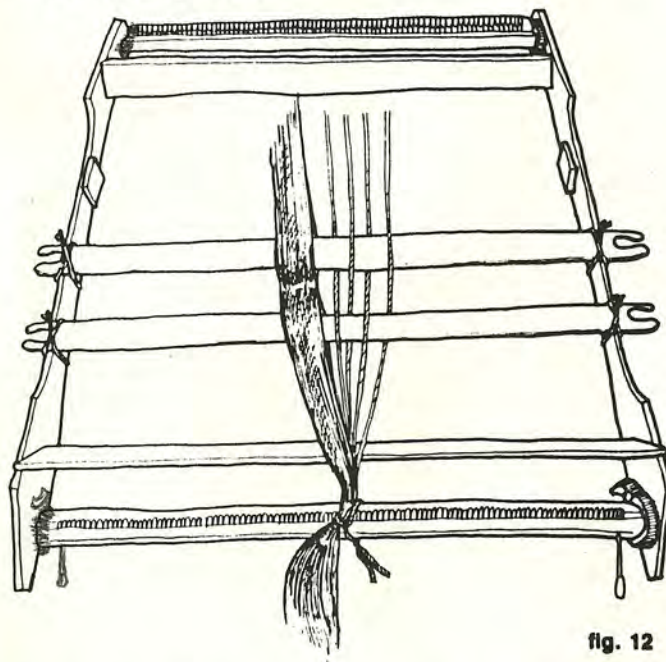

fig. 12
4. Insert the two shuttles in the warp cross, one on each side, and tie them to the sides of the loom just in front of the heddle (fig. 12).
5. Use the long ends of the "choke" tie cord to tie the warp to the cloth beam (fig. 12).